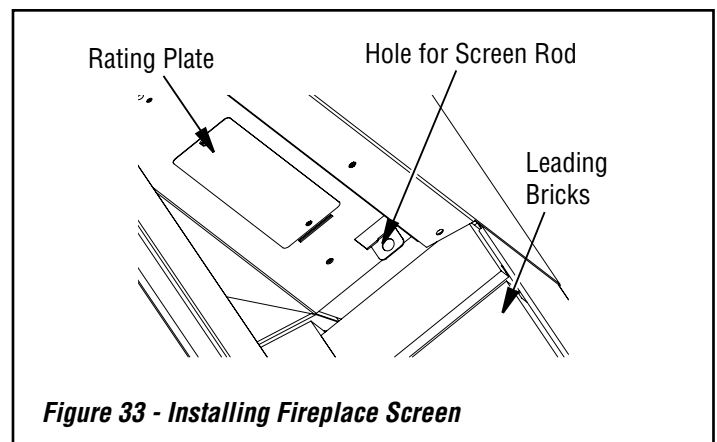

Figure 33 - Installing Fireplace Screen
2. Insert the round end screen rod into hole on the left and right side of smoke shelf (**Figure 33**).